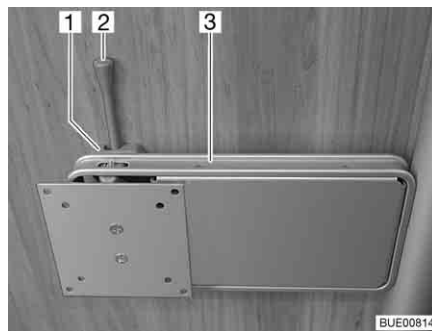

Fig. 70 Holder on the column
- Push the release lever (Fig. 70,2) to the side and turn the holder (Fig. 70,3) with the flat screen to the desired position.
- Turn flat screen back until the holder (Fig. 70,3) engages in the lock (Fig. 70,1).